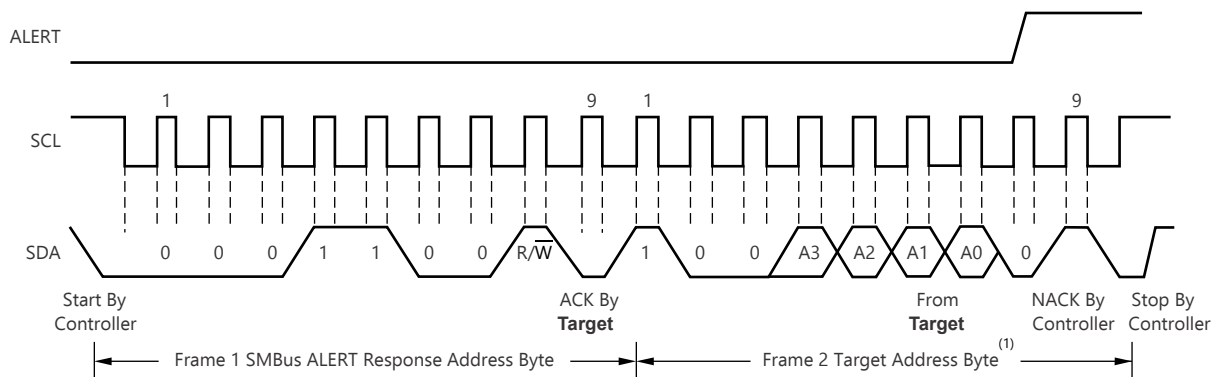
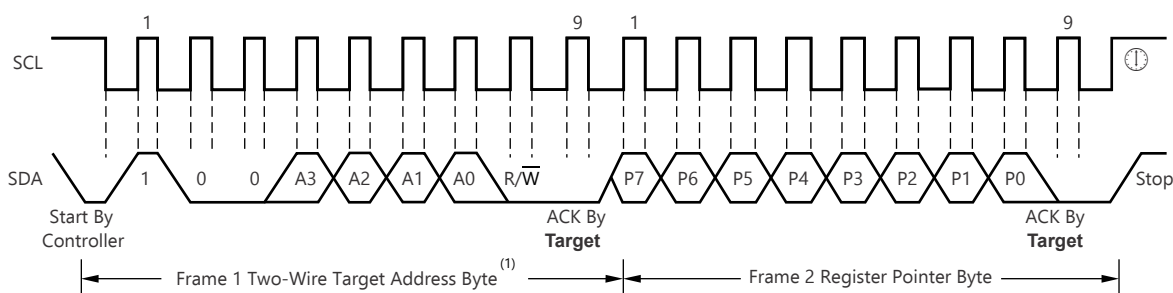

Figure 6-6. Timing Diagram for SMBus ALERT
Figure 6-7. Typical Register Pointer Set
Accessing a specific register on the INA226-Q1 is accomplished by writing the appropriate value to the register pointer. Refer to Table 7-1 for a complete list of registers and corresponding addresses. The value for the register pointer (as shown in Figure 6-7) is the first byte transferred after the slave address byte with the R/ \overline{W} bit low. Every write operation to the device requires a value for the register pointer.
2. Read data is from the last register pointer location. If a new register is desired, the register pointer must be updated. See Figure 6-7.
Figure 6-6 shows the timing diagram for the SMBus Alert response operation. Figure 6-7 illustrates a typical register pointer configuration.